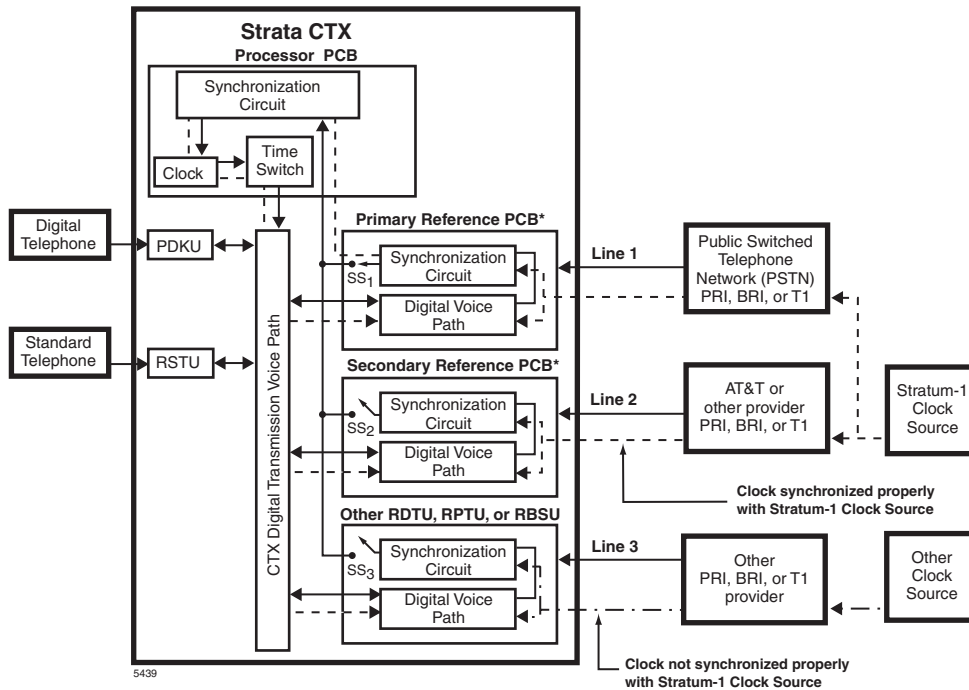

Figure 8-6 RDTU Primary/Secondary Reference Block Diagram
2. Insert the RDTU (component side facing right) into the appropriate slot and apply firm, even pressure to ensure proper mating of connectors. (See “Worksheet 6: Strata CTX670 Cabinet Slots” on page 2-37 for RDTU slot assignment recommendations.) (See Figure 8-6.)
Primary Synchronization (PSYNC)	See Figure 8-6 on page 8-16 – If one RDTU PCB is assigned as the Primary Timing T1 PCB in Program 105, the PSYNC LED of this RDTU PCB flashes when it is synchronized with the far end T1 span line clock provider. If the Primary RDTU is not synchronized with the clock provider, the PSYNC LED will be On steady. The SSYNC LED of the Primary sync RDTU PCB should always be Off. The Primary sync RDTU PCB synchronizes the RTCU (time-switch) to the clock signal it receives from the T1 span circuit to which it is connected. The RTCU then synchronizes the Strata CTX PCM talk path (time-switch) to the far end PCM talk path.